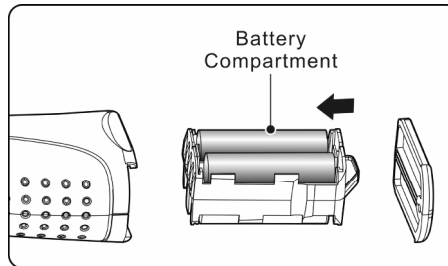

Fig. 5
- ✓ To remove the batteries, hold handheld display unit to remove the battery compartment and then remove batteries. (**Fig. 5**)